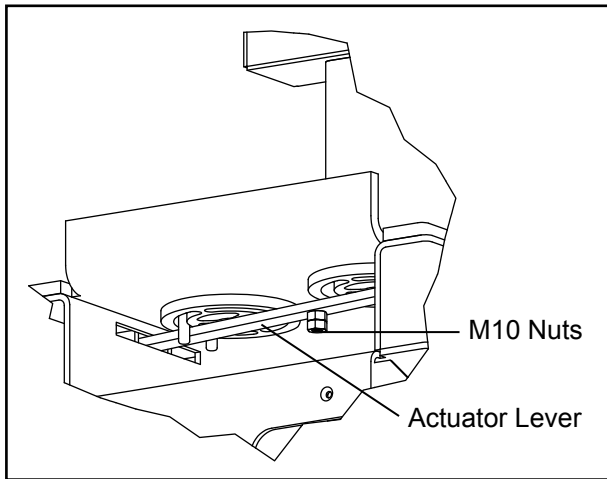

Fig. 8
2. Undo both M10 locking nuts on underside of plate and remove from thread (see Fig. 8).